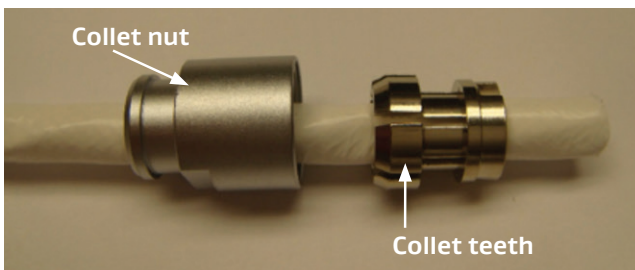

Figure 27: Attaching the collet and collet nut
2. With the smallest end near the cable, slide the collet nut over the cable; then slide the collet over the cable with the teeth facing the collet nut (Figure 27).